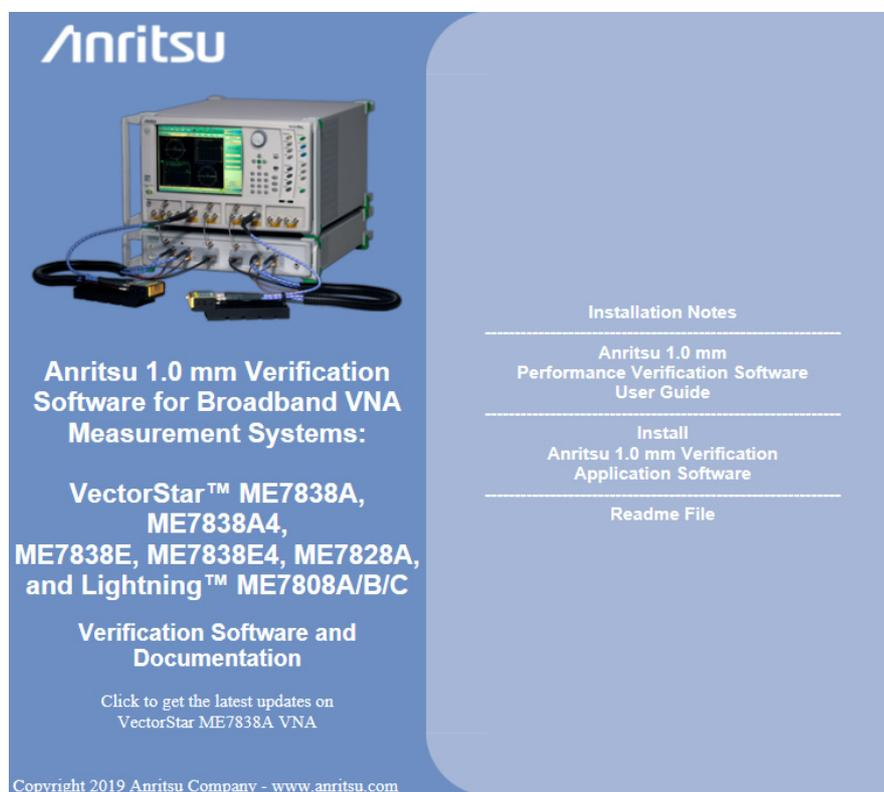

Figure 4-1. PVS Installation and Documentation Screen
- The installer adds all required files and makes the necessary registry updates on the PC Controller. When done, the navigation page (Figure 4-1) reappears.